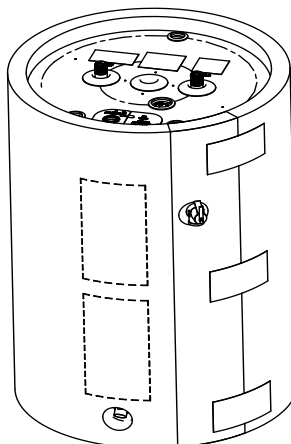

Figure 2
2. Apply 3 pieces of tape 6" long across cover seam as shown in Figure 2.